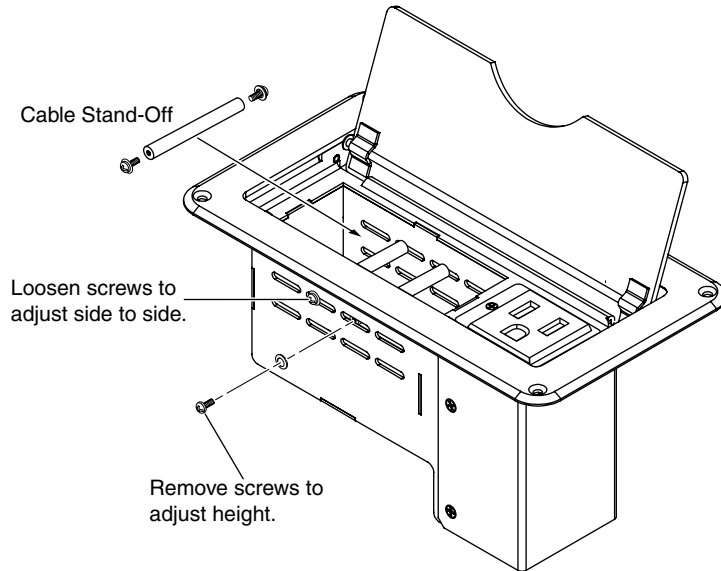

Figure 2-6 — Cable Cubby 200 height adjustment
The Cable Cubby 200 has three cable stand-offs (figure 2-6) that allow you to set the height of the cables inside the enclosure. Adjust the cable height as follows:
2. Loosely install the Phillips head screws and washers as shown in figure 2-6.